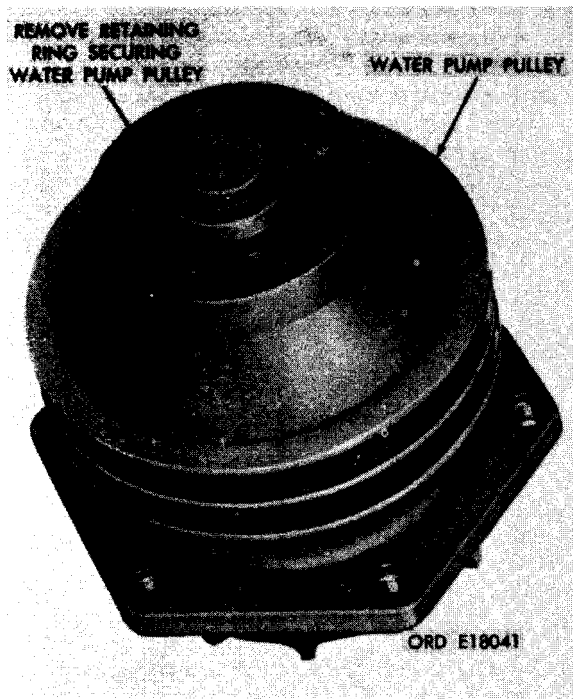

FIGURE 119. REMOVING OR INSTALLING WATER PUMP PULLEY RETAINING RING.
- (3) Refer to figure 119 and remove water pump pulley retaining ring.
- (7) Refer to figure 119 and reverse the sequence of instructions to install water pump pulley retaining ring.